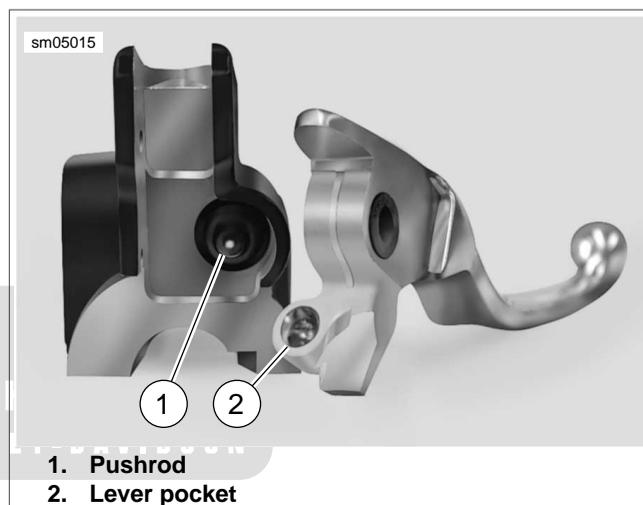

Figure 2-44. Apply Grease to Lever Pocket
1. Place dab of G-40M grease (HD Part No. 42820-04) into pocket of hand lever. See Figure 2-44.